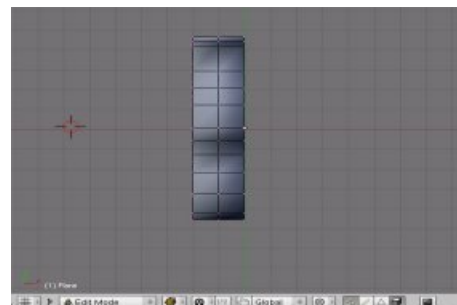

Fig 2: Extruding the car surface.
**4.**In top view, select all the vertices and extrude (E key) 2 times. (Fig 2)